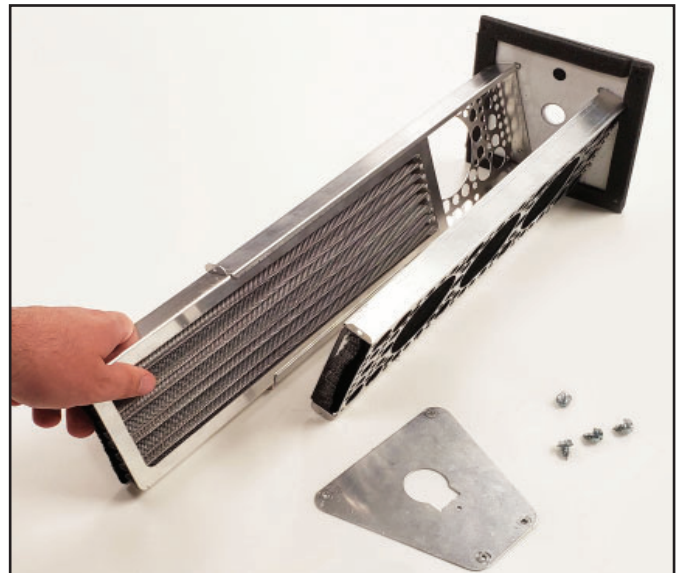

FIGURE 8
6. With the end bracket taken off, the Pro-Cell catalytic aluminum substrate, carbon media and frame can be slid out of the opening in the back of the unit, see Figure 8. The catalytic aluminum substrate, carbon media insert and frame must be removed together even if only one needs replacing.